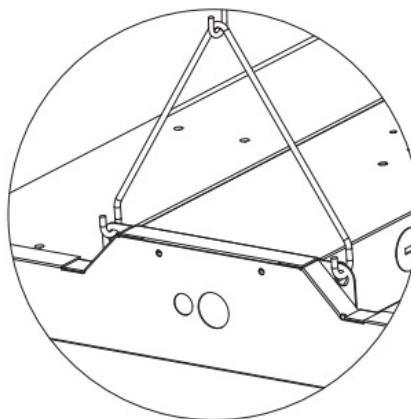

Fig. A-2
2. Install both V-hooks onto each side of the fixture body (Figure A-2)